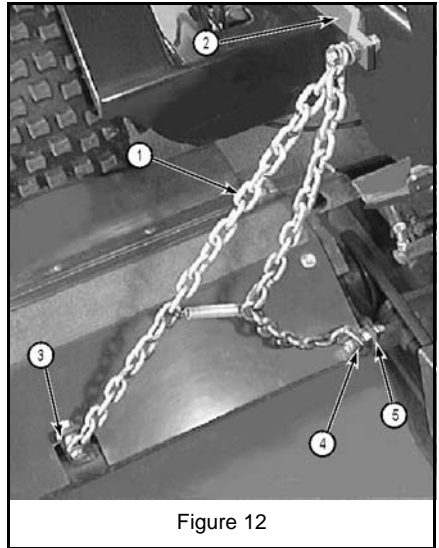

Figure 12
1. Position lift chain (1, Figure 12) that has been previously attached to lift lever (2, Figure 12) so that the longest chain extends away from the tractor.
2. Attach it to attachment tab (3, Figure 12) located on the middle of the front edge of the wing mower using a 3/8"-24 x 1-3/4" bolt, two 3/8" flat washers, and two 3/8"-24 lock nuts.
4. Remove the cap screw (4, Figure 12) closest to the inside of the tractor fastening the shield to the cross bar.
5. Attach chain bracket (5, Figure 12), positioning the bracket with the longest leg to the outside of the cutting unit.